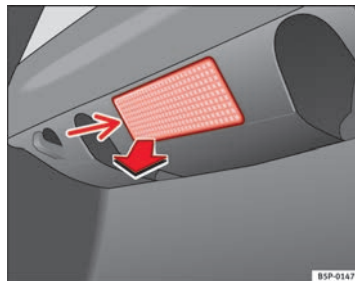

Fig. 191 Luggage compartment light
- Remove the bulb by pressing on the inside edge of this -arrow- using the flat side of a screwdriver ⇒ fig. 191. ►